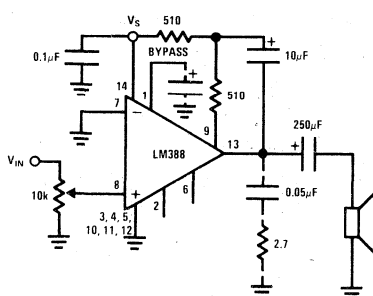
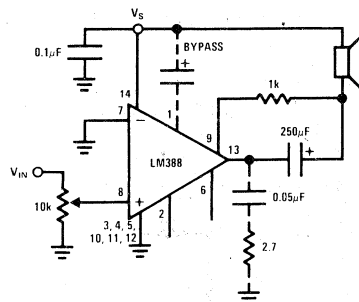

FIGURE 1. Load Returned to Ground
FIGURE 2. Load Returned to  $V_S$
### electrical characteristics $T_A = 25^\circ\text{C}$ , (Figure 1)
**Note 4:** If load and bypass capacitor are returned to  $V_S$  (Figure 2), rather than ground (Figure 1), PSRR is typically 30 dB.